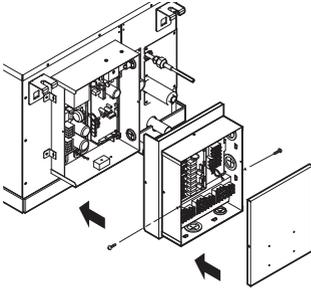

Figure 1
- Open the cover of indoor unit control box and damper controller(Figure 1)
- Set one wired remote controller as master, the others as slave. <Figure 1>
<Figure 1>